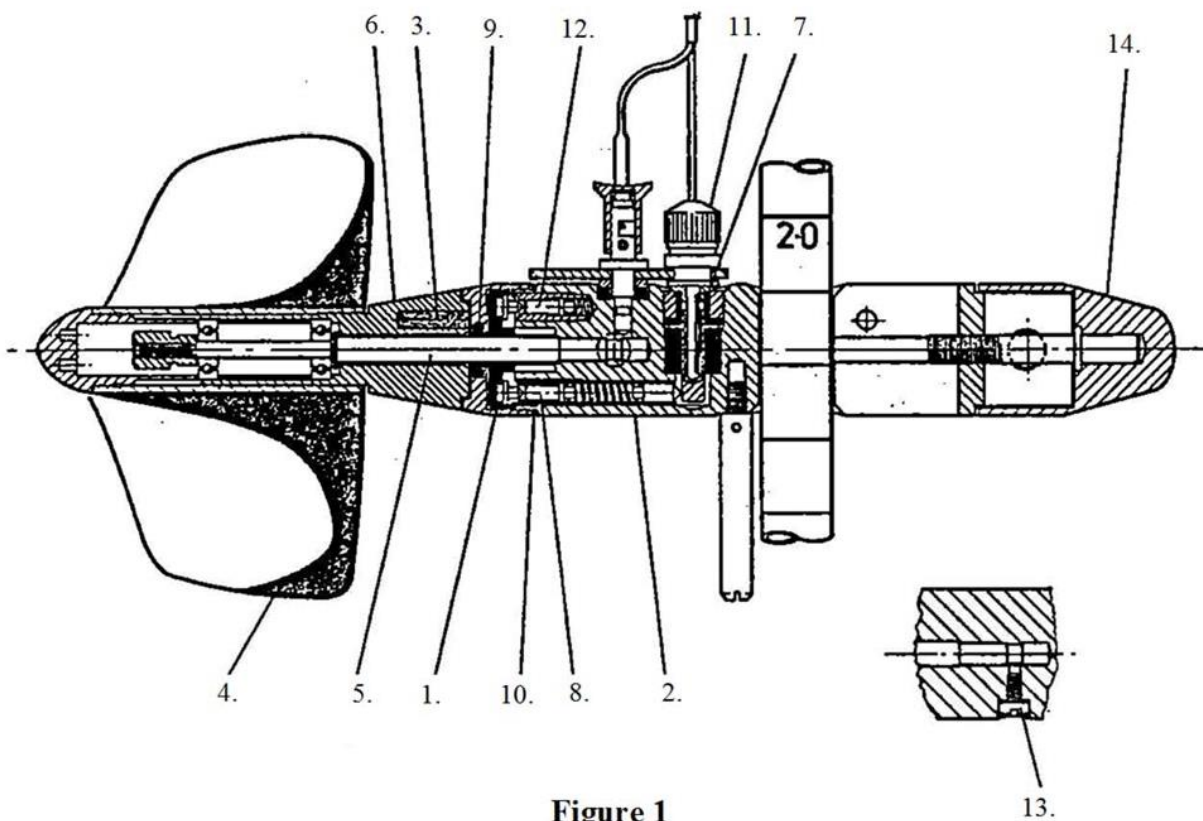

Figure 1
One impulse signal is produced per Fan revolution. As shown in figure1 below, this signal is generated by an encapsulated reed switch (1) which resides inside the meter body (2) and a permanent magnet (3) set into the rotating Fan assembly. A cover sealed with two O-rings provides a water-tight housing for the reed switch, while gold plated contact pins ensure low-resistance signal passage.